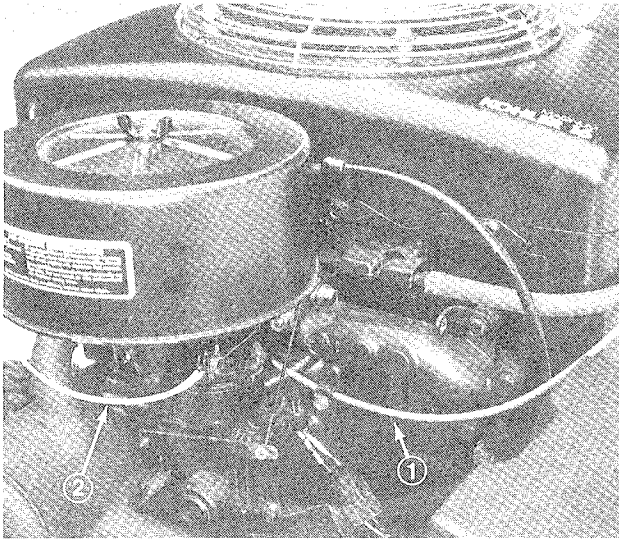

Figure 5
2. Route throttle cable around left side of engine, behind carburetor on front of engine and hook cable end into bottom hole in governor arm (Fig. 5 & 6).
2. Route choke cable around left side of engine and hook cable end into hole in carburetor choke lever (Fig. 5 & 7).